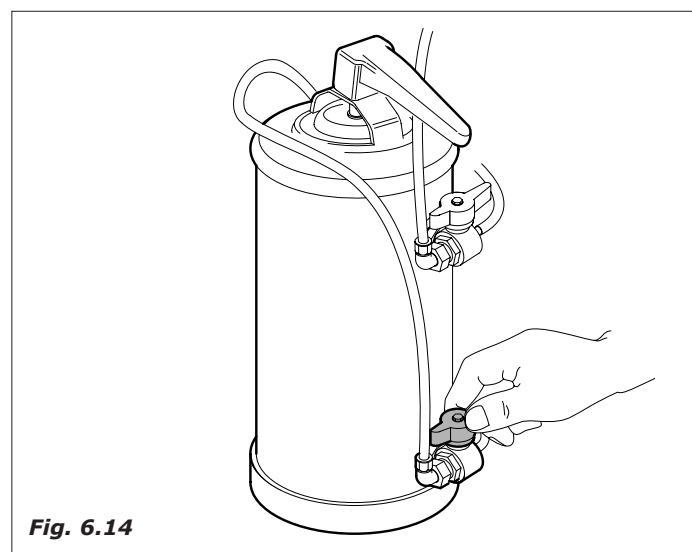

Fig. 6.14
- switch on the machine and let the water pour out until it is no longer salty (Fig. 6.14).